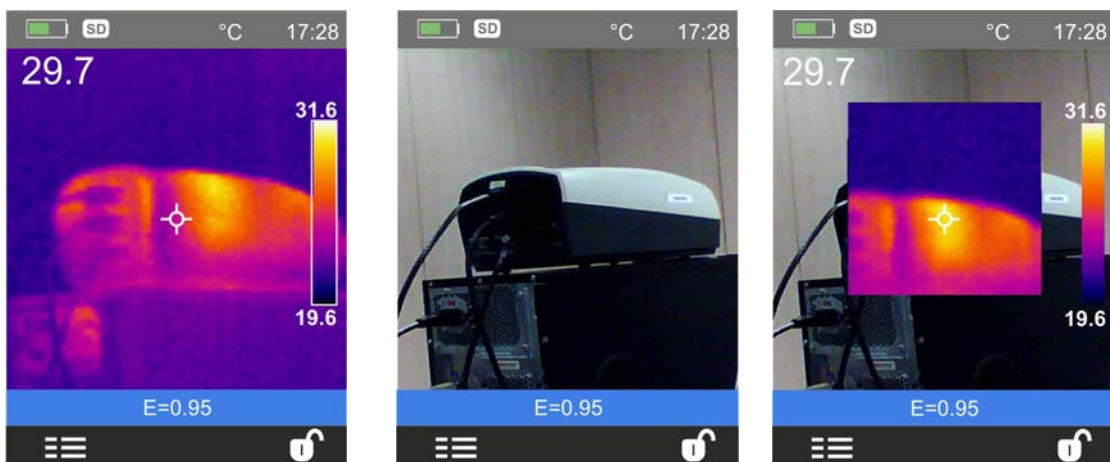

Fig. 20: Image display modes
2. Use the keys \oplus or \ominus to select the desired display mode among the options: **IR** (infrared image), **Visual** (visual image), **Fusion** (fusion of IR image into the visual one) (see Fig. 20)